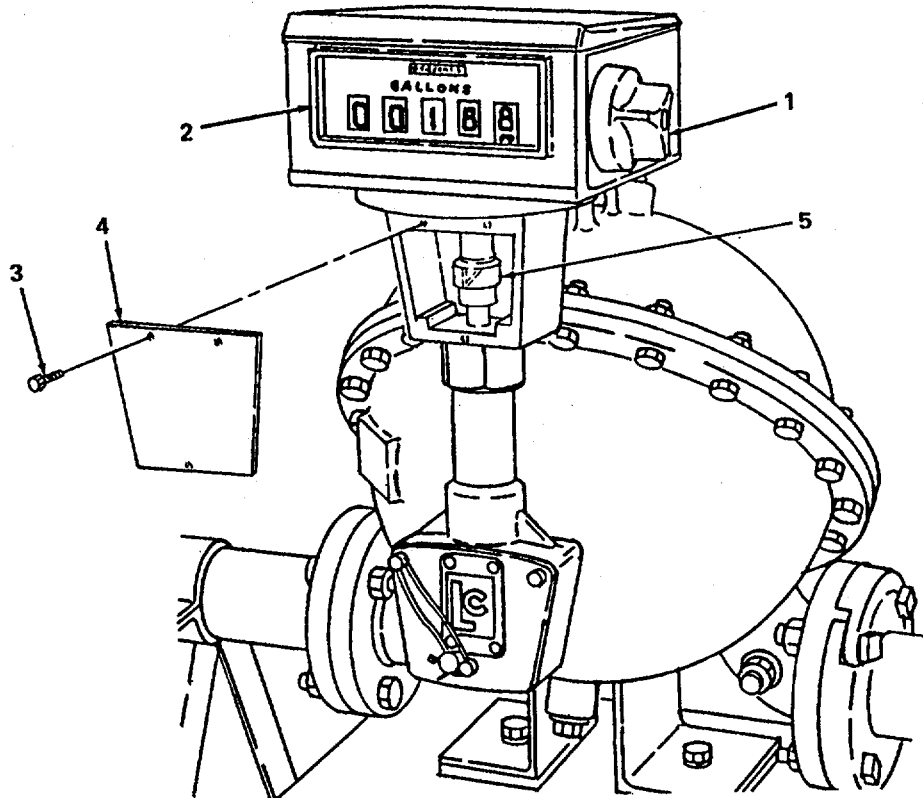

Figure 5-23. Flow Meter Calibration.
(1) Determine percentage of metering error.
- (a) Using knob (1, figure 5-23), zero totalizer register (2).
(2) Adjust flow meter.
- (a) Break seal and remove three screws (3) and adjuster cover assembly (4).